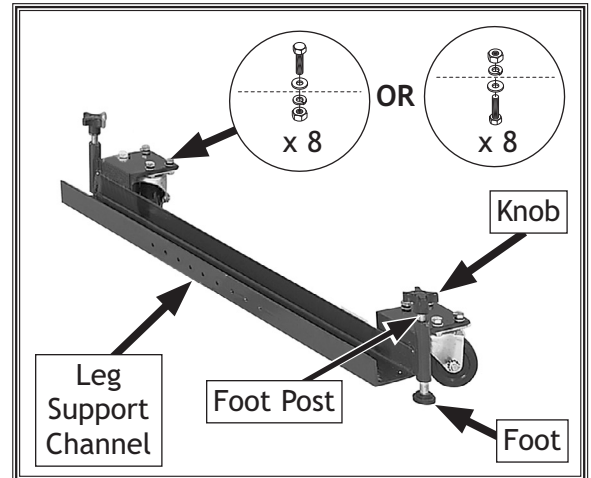

Figure 3. Casters and feet installed onto leg support channel.
3. Secure the base side rail to two corner brackets on the mobile base with (4) M8-1.25 x 16 hex bolts and 8mm lock nuts.
4. Mount the swivel casters to the corner brackets on the leg support channel using (8) M8-1.25 x 16 hex bolts, 8mm flat washers, 8mm lock washers, and M8-1.25 hex nuts, as shown in **Figure 3**.